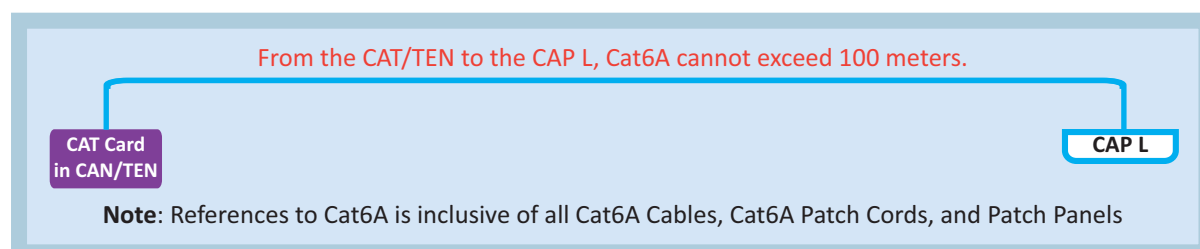

Figure 16. Maximum Cat6A Cable Lengths from CAT Card to CAP L
- The maximum Cat6A cable length between a CAP L with a Copper Interface and a CAN/TEN is 100 meters including all Cat6A cables, Cat6A Patch Cords, and Patch Panels (see Figure 16). No more than 5m of Cat6A Patch Cords should be used to connect the CAT Card and a CAP L with a Copper Interface.